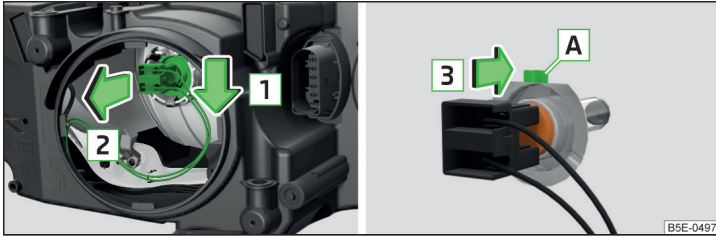

Fig. 237 Headlight with halogen bulb: Bulb for low beam
- › Disconnect the connector with the light bulb in the direction of arrow **1** » Fig. 237.
- › Insert the connector with the new bulb so that the fixing lug **A** » Fig. 237 fits the bulb into the recess on the reflector.